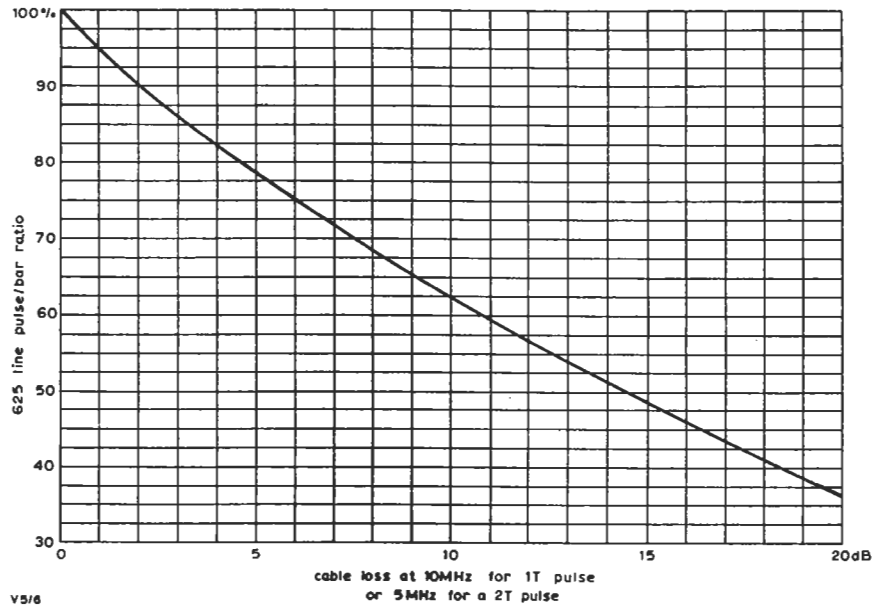

Fig. 5.3 Cable Loss Plotted Against Pulse/Bar Ratio for Use with the EQ1/505
1. If the cable loss is not known measure the pulse-and-bar ratio of a 1T pulse-and-bar signal transmitted over the unequalised cable. The cable loss can then be obtained from Fig. 5.3.